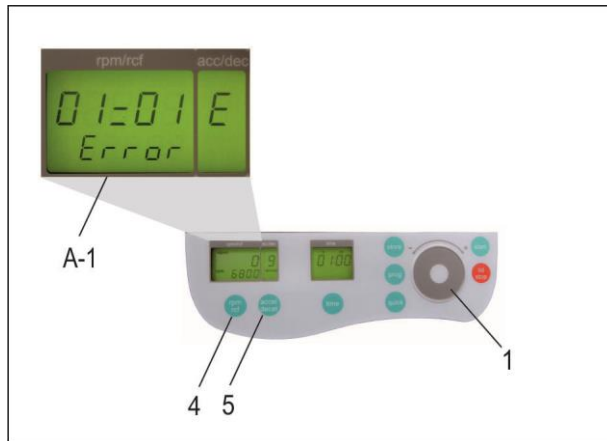

Figure 5
The list of the last 99 error messages can be looked over by pressing the key "rpm/rcf" (4) and leaf through it with the control field (1). The respective error codes appear in the display "rpm/rc" (A-1) (see Figure 5). The first two numbers indicate the appeared errors ongoing from 00 to 99, the last two numbers indicate the error code. Please refer to, Table 5: Error Messages, (see APPENDIX V).